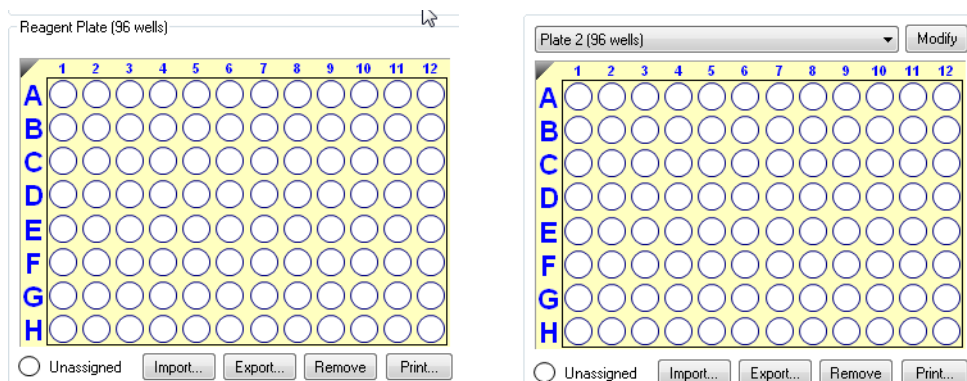

Figure 7-40: Reagent Plate/Plate 2 Print Button
1. In the **Reagent Plate/Plate 2 Map** (see Figure 7-40), click **Print**.